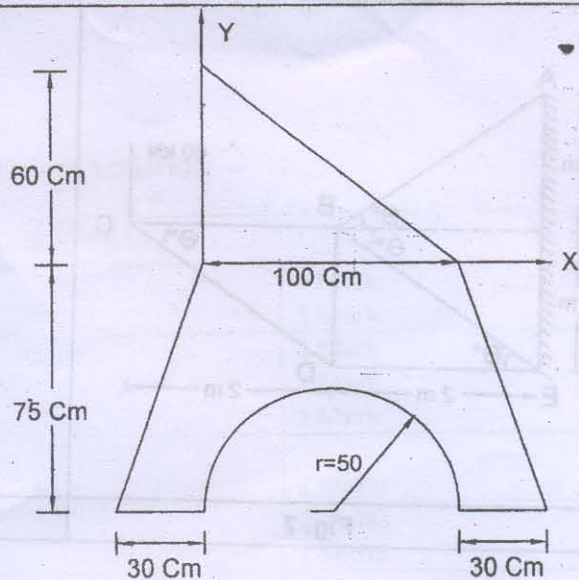

Fig. 2
- Que. 2.c Determine the centroid of the plane area shown in Fig.2 with respect to x and y axes as shown in figure. 07